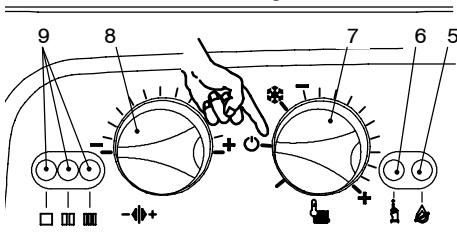

Fig. 8.2
- 8 Turn the boiler OFF positioning the function selector 7 as indicated in Fig. 8.2.